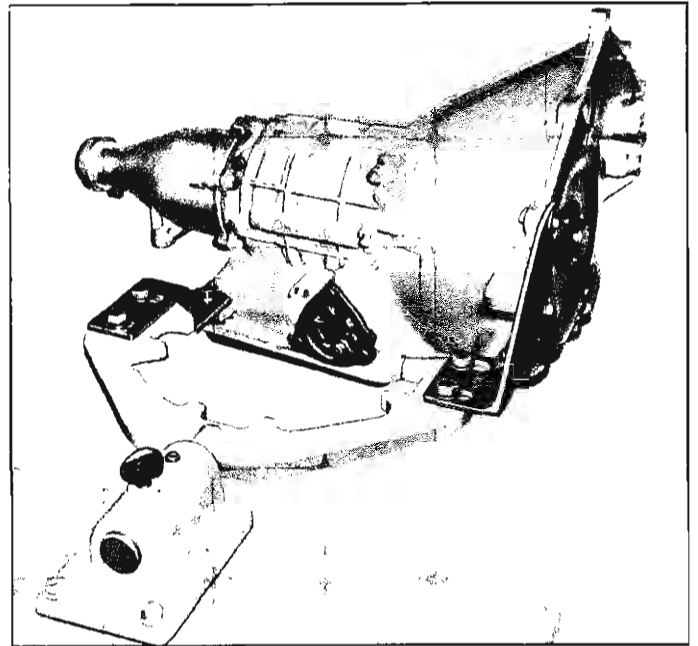

Fig. 6—Transmission Mounted in Fixture
1. Place transmission in holding fixture J-3289-01 and adapters J-9506 (fig. 6).